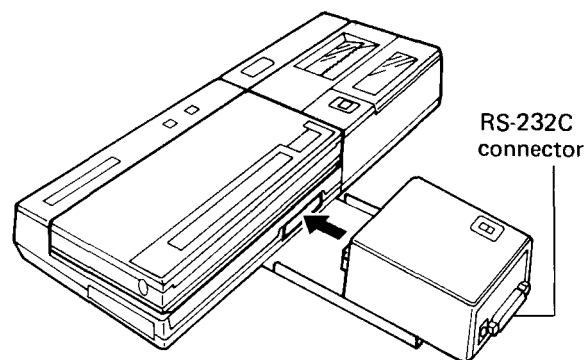

Figure 5. RS-232C Interface to Printer/Plotter/Dual Cassette Interface.
- Slide the RS-232C Interface onto Metal Support Bracket B so that the Interface's male 60-Pin Plug connects with the Printer/Plotter/Dual Interface's female 60-Pin Plug. (See Figure 5.)